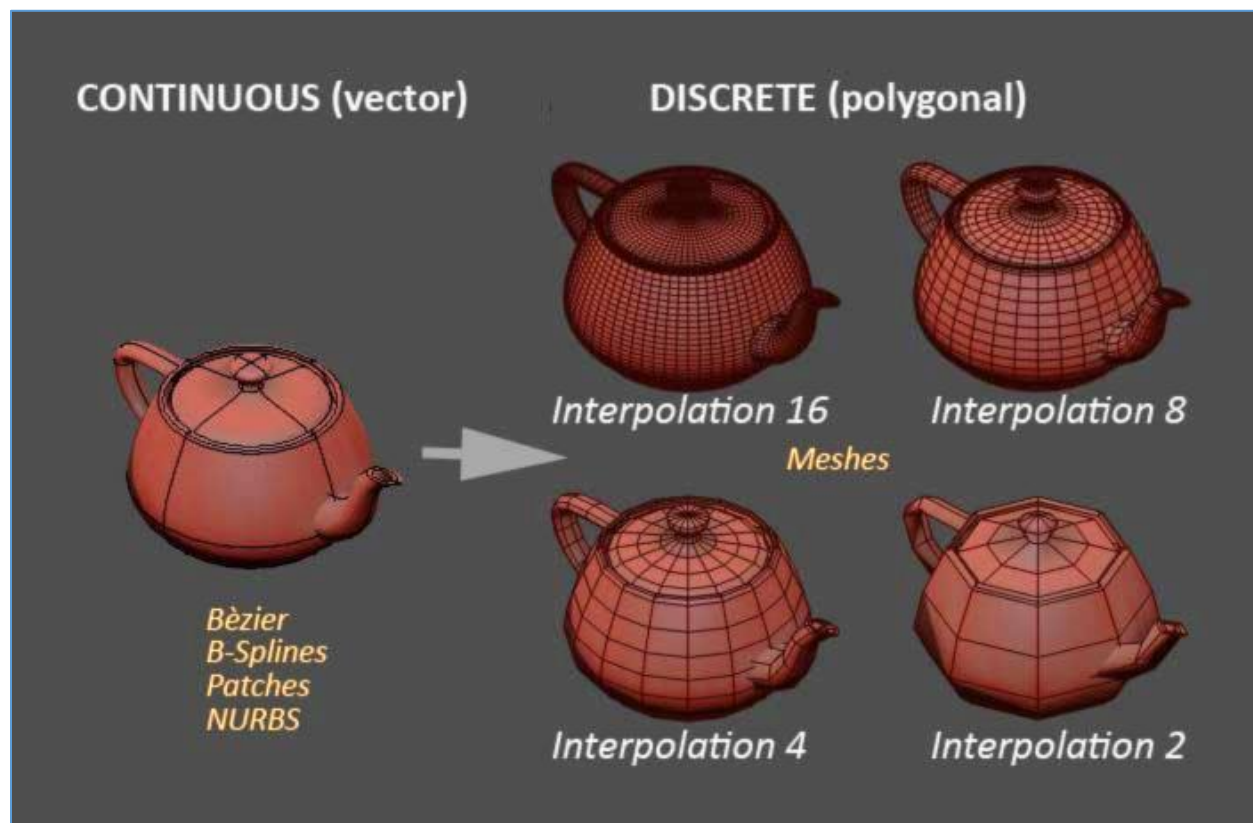

Figure 1: Continuous vs. discrete geometry in 3ds Max.
Computer Graphics (CG) representation is based on two main categories: vector representation and discrete representation, the first being a mathematical (parametric) description of an object, and the latter being a segmented approximation of it (Figure 1).